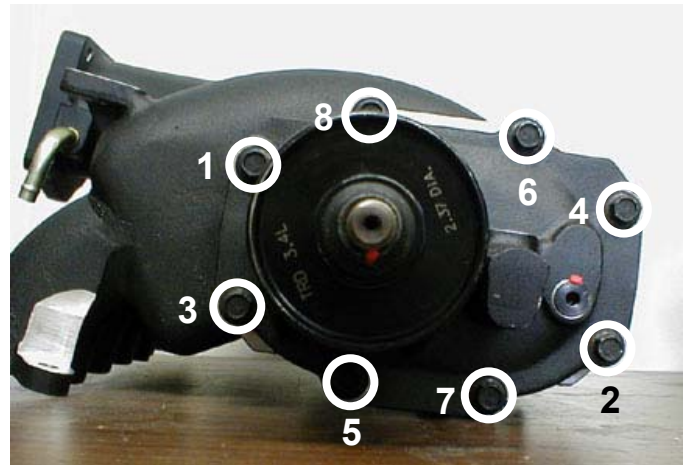

Figure 10
1. Use the pattern in Figure 10 to remove the nose drive attachment bolts.
10. Replace the 8 bolts removed in Step 1 on Page 7. Use the pattern in Figure 10 to tighten the drive assembly evenly. Torque the bolts to 20 ft-lbs.